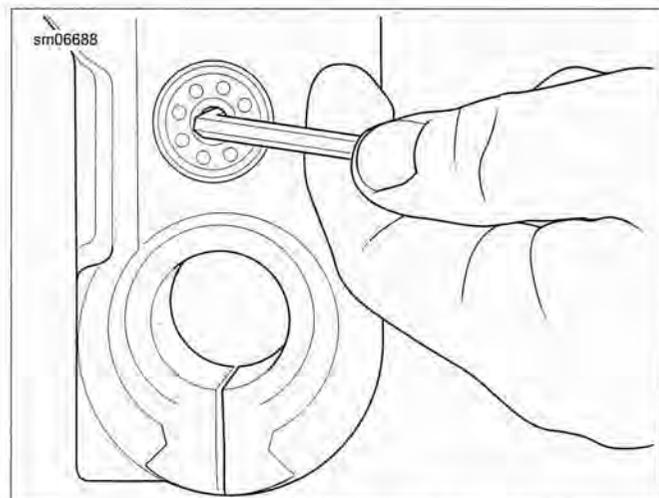

Figure 2-146. Preload Adjuster
1. See Figure 2-146. Back the preload off the fork spring.